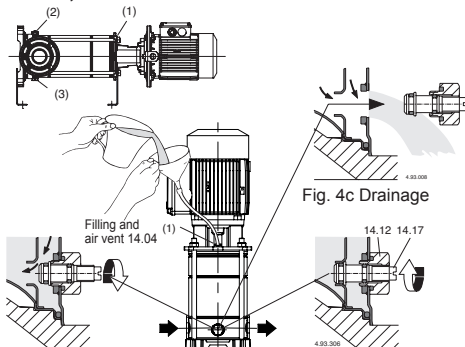

Fig. 4a Filling:
When the pump is located above the water level (suction lift operation, **fig. 3A**) or with a positive suction head which is too low (less than 1 m) to open the non-return valve, fill the suction pipe and the pump through the priming hole (1) (**fig. 4a,4d**).
During filling, the needle screw (14.17) in the drainage plug (14.12) must be kept loose so as to allow a free passage between the pressure chamber and the suction chamber (**Fig.4a**).